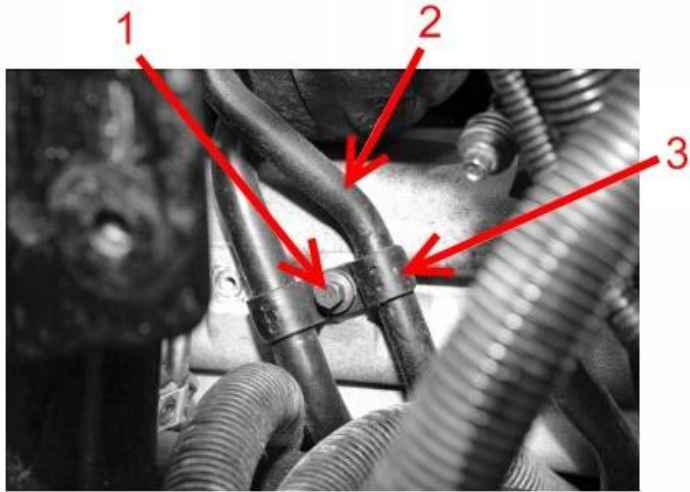

Figure 19: Turbo Oil Drain Tube
17. Install bolt (**Figure 19**, Item 1) in P-clamp (**Figure 19**, Item 3) on oil drain tube (**Figure 19**, Item 2).